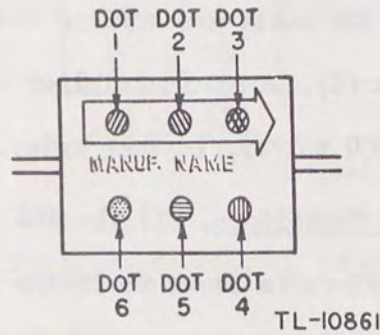

Figure 10. Molded-mica capacitors, RMA six-dot color code.
ation) code is illustrated in figure 10. This code uses six colored dots with an arrow to show the sequence. The first three dots give the first three digits of the capacitance in micromicrofarads, the fourth dot (directly below the third) gives the decimal multiplier, the fifth indicates the tolerance in capacitance, and the sixth indicates the d-c working voltage. For example: a capacitor of 0.006 microfarads (6,000 micromicrofarads) plus or minus 10 percent, 800 volts d-c working voltage, would be marked: blue (6), black (0), black (0), brown (multiplier 10), silver (plus or minus 10 percent), gray (800 volts), in that order.